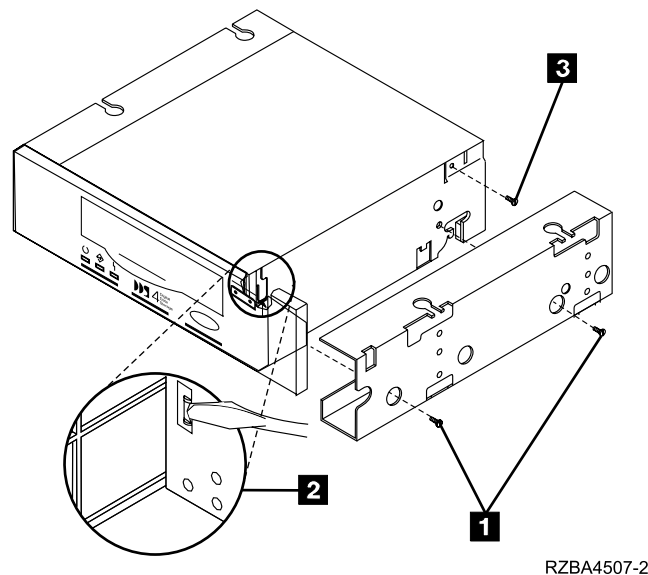

Figure 14. Removing the Mounting Rails from the Drive
2. Remove the mounting rails by removing the four screws (**1** in Figure 14) near the lower edge of the drive (two on each side). Access the screws through holes in the side of each rail.